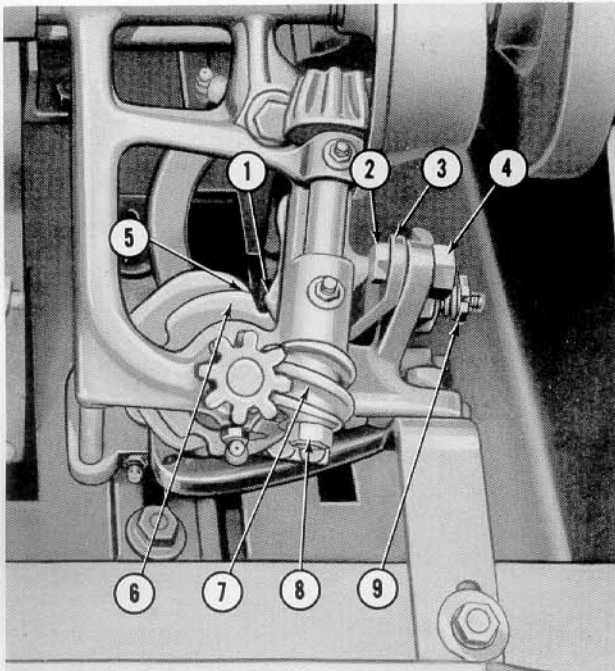
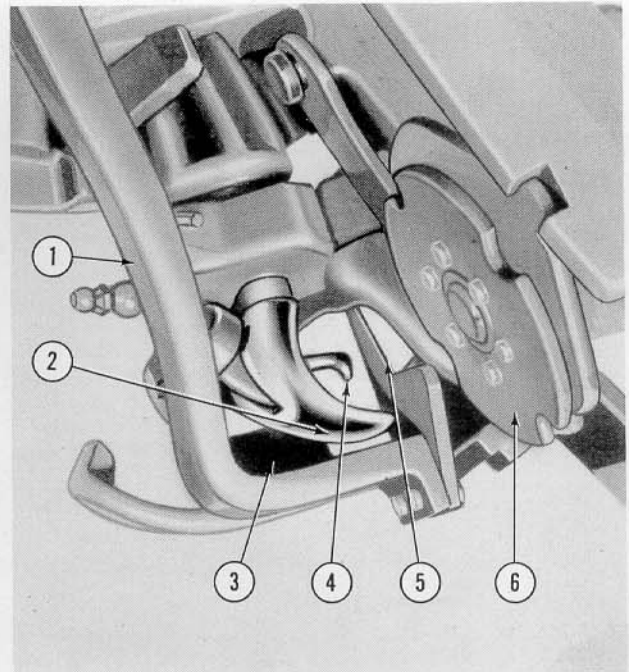
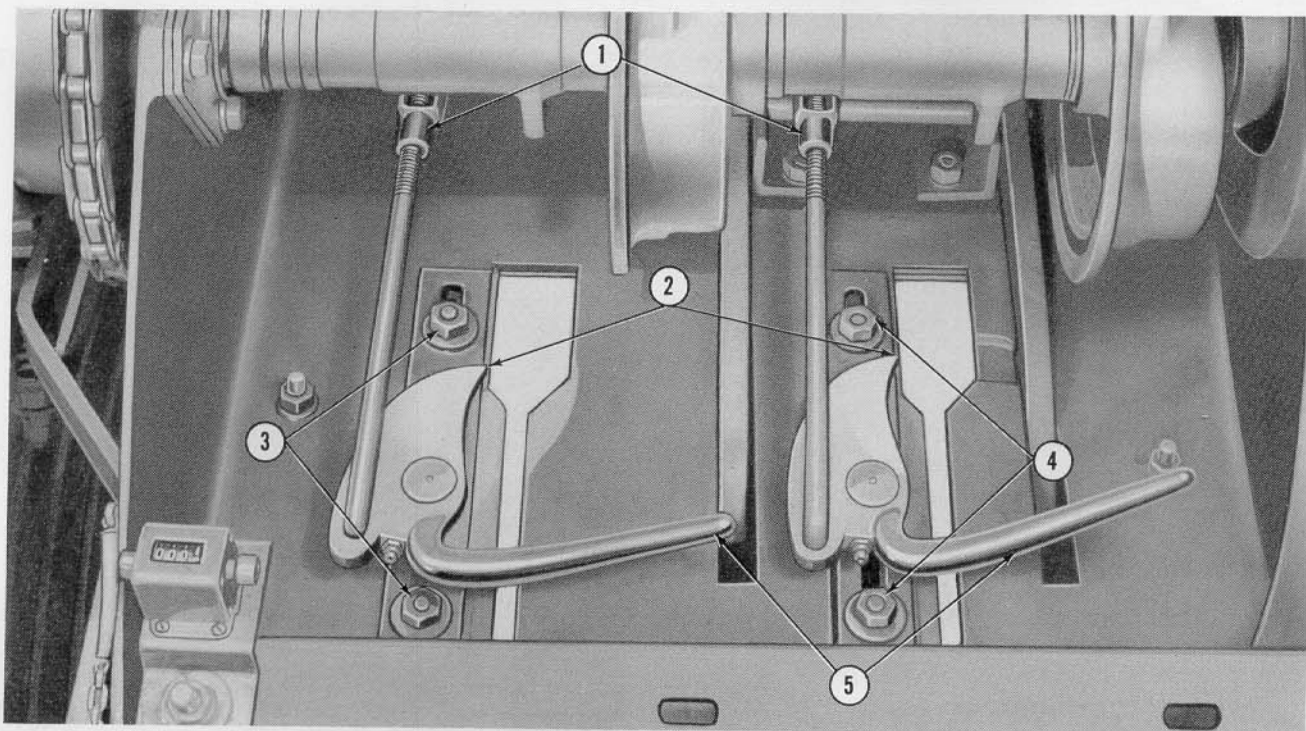

Figure 25
Figure 26
Figure 27
Twine Holder: The function of the twine holder (1), Figure 25, is to hold the baling twine under pressure in the twine disc (6). Insufficient tension on the twine holder permits the twine to be pulled out of the twine disc, resulting in failure to form a knot in the strand of twine over the top of the bale or resulting in knots with one end $\frac{1}{2}$ inch or more longer than the other. In some cases, the longer end may be tucked into the knot, forming a single loop.
To adjust the tension on the twine holder, loosen the jam nut (4), Figure 25, and turn the bolt (2) against the disc spring (3). Increase or decrease the tension gradually by turning the bolt (2) $\frac{1}{4}$ turn at a time. After adjusting, tighten the jam nut (4) securely.
Twine Disc: When the twine disc (6), Figure 25, is properly adjusted to receive twine, the left side of the notch in the disc should be flush with the edge of the cleaner plate (5) as shown. To adjust the twine disc, loosen the nut (8) and loosen the worm gear (7) on its tapered shaft. Rotate the worm gear (7) as necessary to advance or retard the twine disc, then tighten the nut (8) to lock the worm gear in position.
Bill Hook: Proper bill hook tension is an important factor in the tying operation. If the tension on the bill hook is insufficient, knots may be loosely tied and may pull apart. Too much tension, however, may result in the bill hook holding the ends of the twine, causing excessive knotter wear and occasional twine breakage. Adjust the bill hook tongue (4), Figure 26, for proper tension by removing the cotter pin and either tightening or loosening the castellated nut (9), Figure 25, one quarter turn at a time. When the desired tension is obtained, replace the cotter pin in the nut.
Knife and Stripper: As the bill hook (2), Figure 26, revolves and picks up the twine from the twine disc (6), the knife (5) swings between the bill hook and twine disc, cutting the twine. The stripper flange (3) then rides along the heel of the bill hook (2), stripping the loop of the knot off the bill hook to complete the tying operation.
The stripper flange (3), Figure 26, should start contacting the curved surface of the bill hook heel about $\frac{5}{8}$ to $\frac{11}{16}$ inch from the tip end of the bill hook and with sufficient pressure to wipe the knot off the bill hook. If necessary, the knife arm (1) may be adjusted by bending it carefully.
NOTE: The knotter knife blades (see 5, Figure 26) should be sharpened when they become dull.
Twine Fingers: It is the function of the twine fingers (2), Figure 27, to pick up the twine brought through the slots in the top of the bale chamber by the needles and hold it in the proper position against the bill hooks. (See 2, Figure 26).
2. Disconnect the spark plug wires, trip the knotter mechanism and turn the flywheel counter-clockwise until the needles pass through the slots in the top of the bale chamber and the twine finger points (2), Figure 27, start to rotate across the needle slots.
3. Remove the cotter pins and clevis pins from the clevises (1), Figure 27.
4. Loosen the hex nuts (3) and (4), Figure 27, which hold the twine finger assemblies to the frame. Move the assemblies forward or backward until the clearance between the twine fingers and the needles is approximately $\frac{1}{8}$ to $\frac{1}{4}$ inch, and so the twine fingers will pick up the twine as they rotate across the needle slots. Retighten the nuts (3) and (4) securely.
6. Turn the clevises (1), Figure 27, until the twine fingers (2) are nearly flush with the left edge of the needle slots in the top of the bale chamber as shown. Reattach the clevises to the cam tracer arms with the clevis pins and cotter pins.